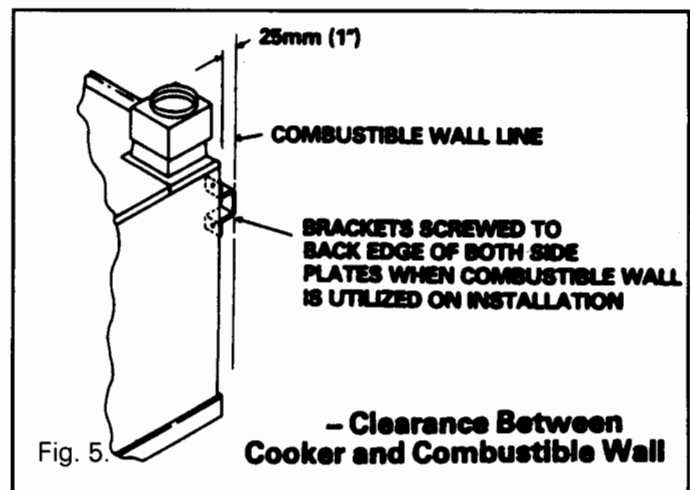

Fig. 5.
2. Appliance Rear Distance Brackets (For use when appliance is Bracket installed 25mm (1in) away from a rear wall of combustible material). See Fig. 5.
NOTE: IF THE REAR WALL IS OF COMBUSTIBLE MATERIAL, THERE MUST BE AN AIR GAP OF 25mm (1in) BETWEEN THE WALL AND REAR OF APPLIANCE. FIT REAR DISTANCE BRACKETS AS SHOWN IN FIG. 5. USING ONE OF THE SECURING SCREWS HOLDING THE REAR PANEL IN POSITON.